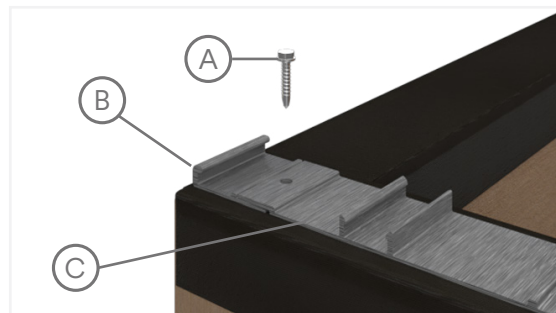

Fig. 7
4. Using a stainless-steel screw (screw recommendations), secure both Clip Strips to the substructure (Fig. 7).